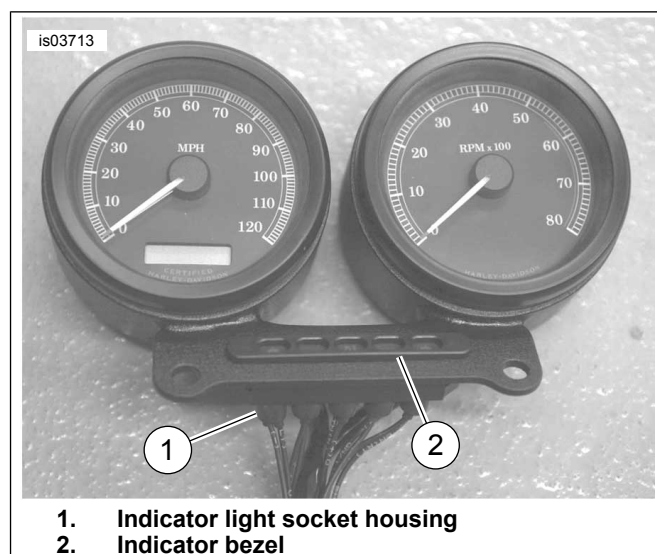

Figure 7. Install Indicator Lamp Assembly
21. See Figure 7. Install indicator light socket housing (1) on back of dual bracket making sure locating pins on bezel (2) enter holes in socket assembly. Install two mounting screws and tighten.